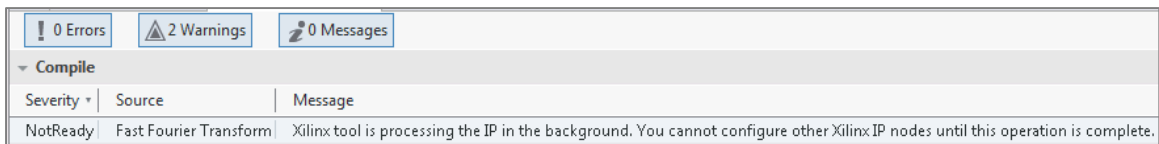

Figure 110 - "Not Ready" warning because Xilinx tool is processing the IP in the background
- Wait until the warning “Not Ready” as shown in Figure 110, has disappeared.